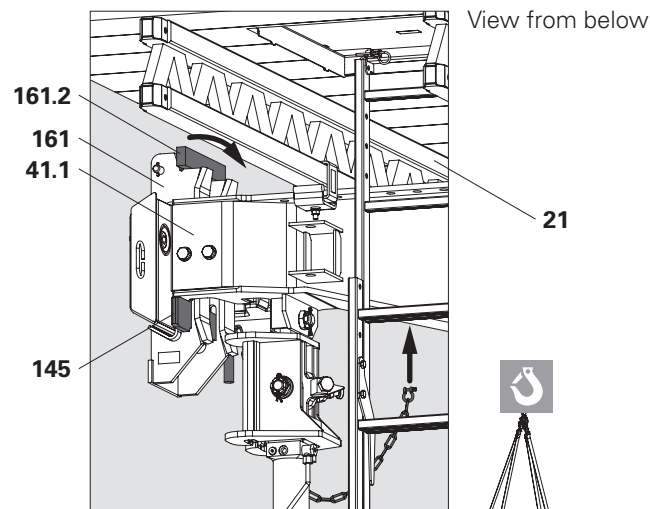

Fig. C3.11a
6. Fix the chain of Ledger ACS (145) to Formwork Girder GT 24 (21).
- (Fig. C3.11a)
- Are all Pressure Point Spindles M42 ACS (146) on the wall?